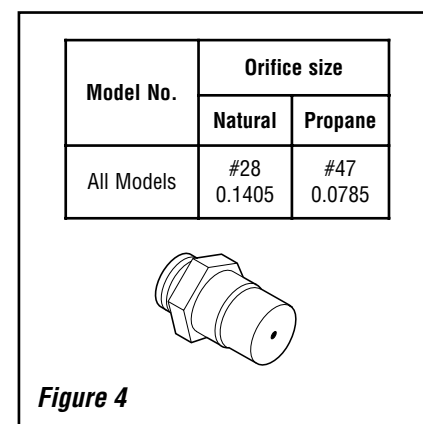

Figure 4
A. Remove the orifice from the manifold and replace it with the one provided in the kit. See the following table for orifice sizes for natural and propane models. **Figure 4** illustrates the orifice.